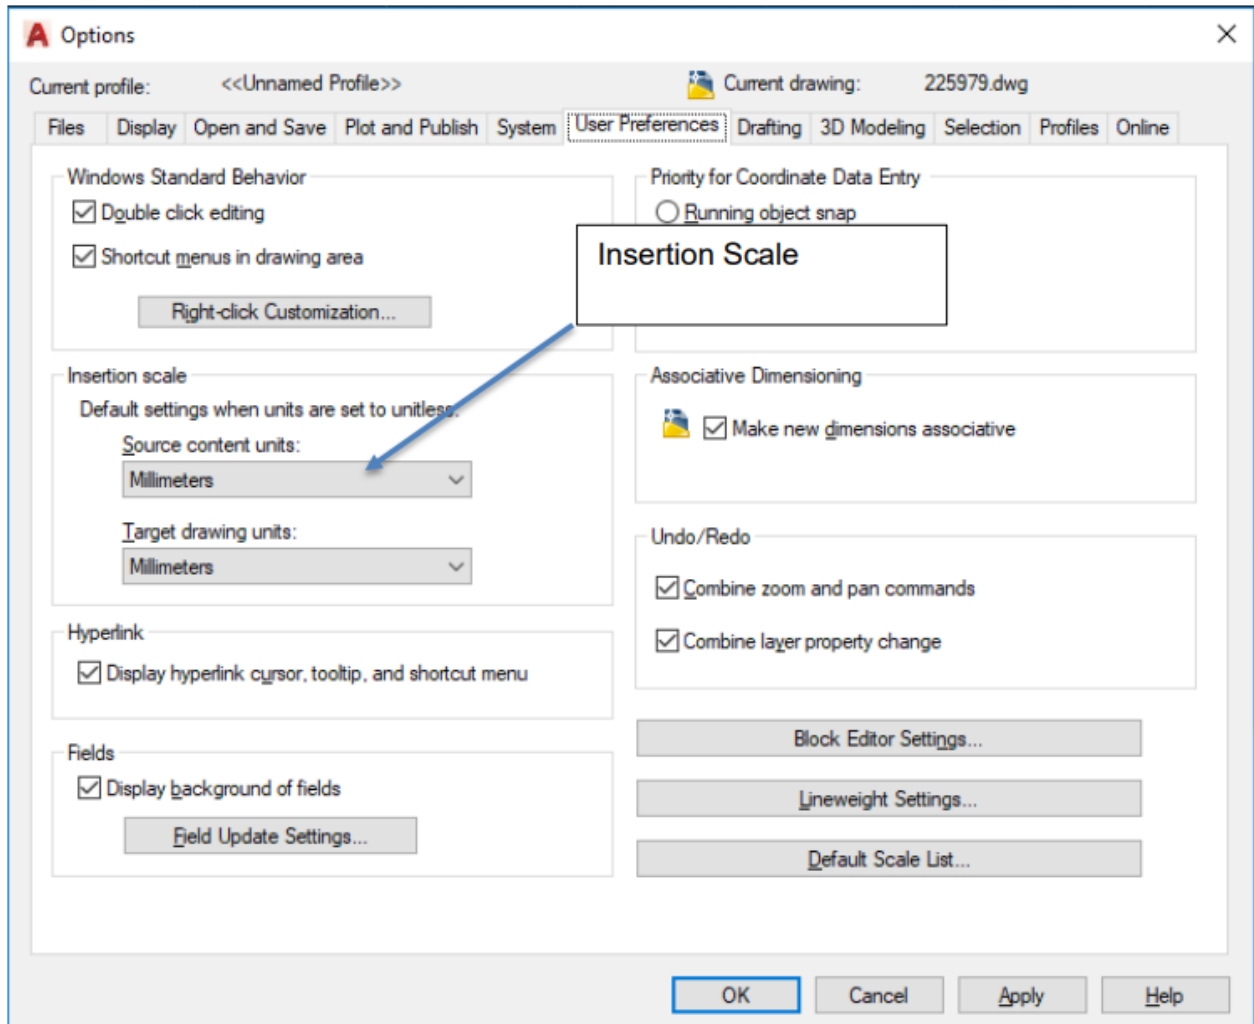

Figure 3. Insertion Scale in options
Check the Insertion scale from the options also. Enter the **OPTIONS (OP)** command and select the **User Preferences** tab. Under the **Insertion Scale** menu, set both **Source Content Units** and **Target Drawing Units** to millimeters, as shown in Figure 3.